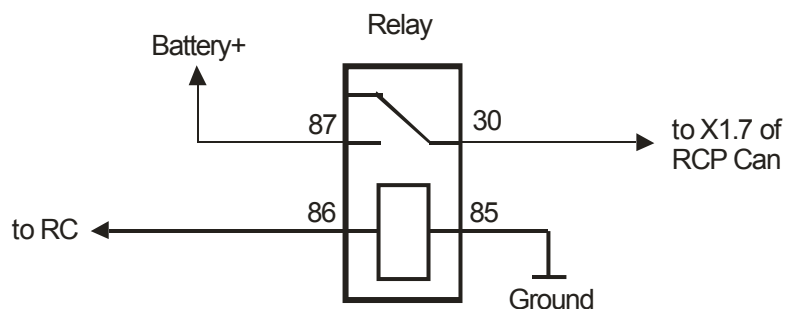

Figure 7
- The input RC_in is intended for connection of specialized remote controls such as DEFA Smart Start, Hydronic Easy Start, Webasto Telestart. If a problem exists with direct connection of the remote control's output line to the input RC_in, the scheme at the fig.7 can be used.